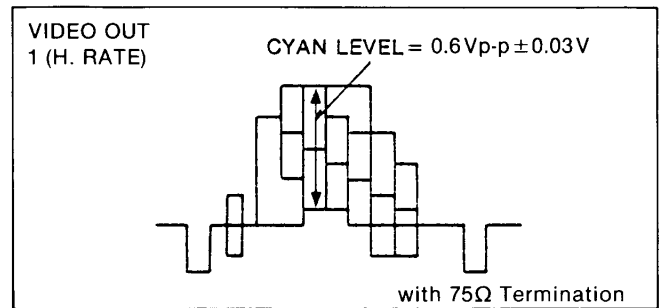

Figure E40
3. Adjust VR8009 for 0.6 +/- 0.03Vp-p as shown in Figure E40.